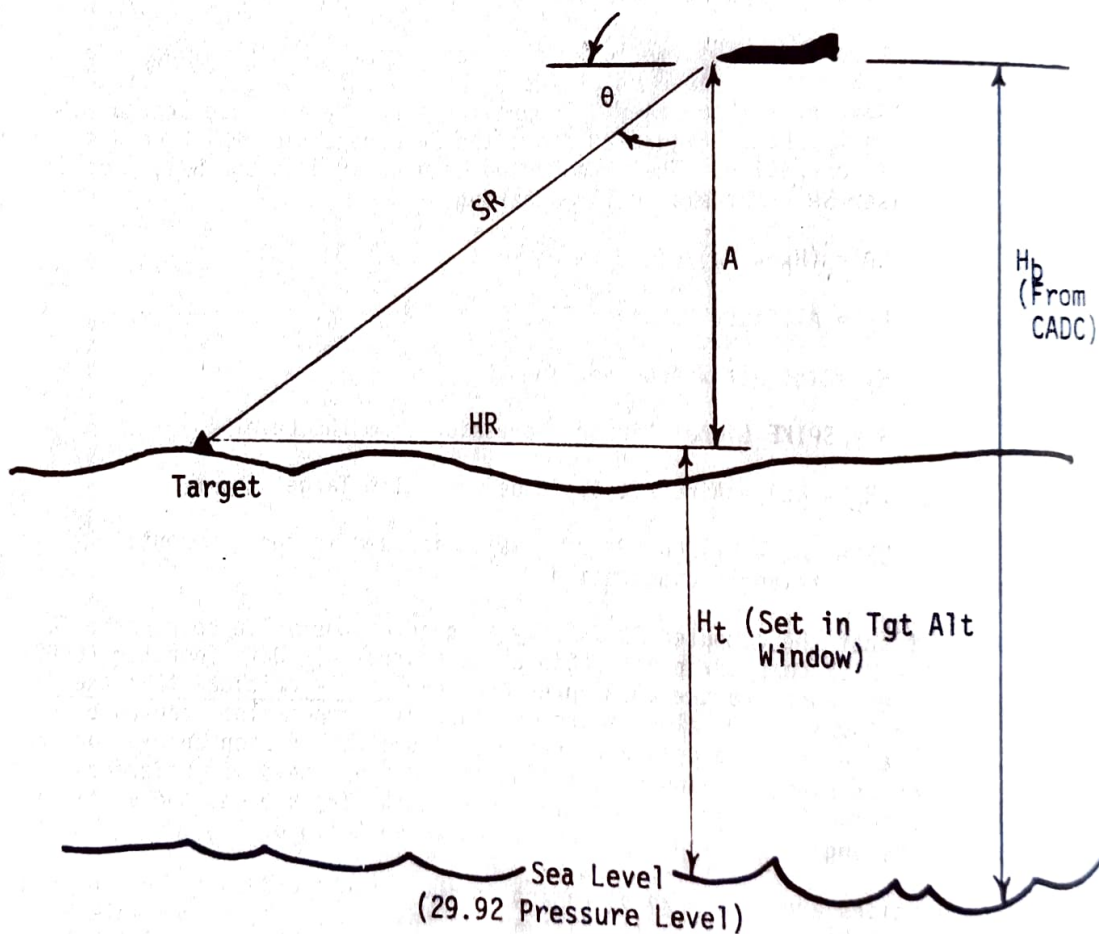

Figure 29, Vertical Triangle
(2) Vertical triangle. The vertical triangle is continuously solved to provide slant range (SR) to the SRI in the absence of laser ranging. The SR obtained is broken down into horizontal and vertical components to provide aircraft altitude and horizontal range to the point being tracked. Figure 29 shows the SR computation which occurs continuously during PAVE SPIKE operation. The SR computed is displayed on the SRI, provided it is not rejected for laser SR. Mathematically speaking: